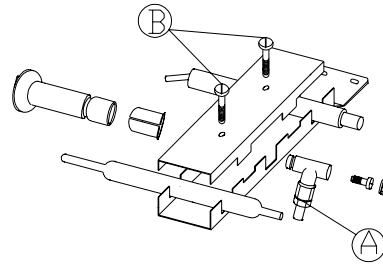

Fig. 13
- a) Loose the A pilot duct (figure) and B joining screws and candle (figure13).